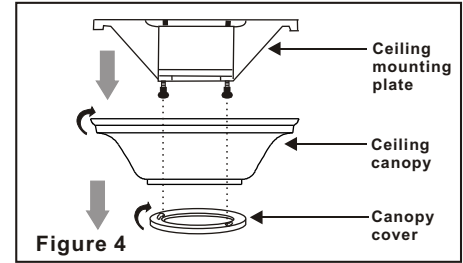

Figure 4
**Step 1.** Remove the decorative canopy bottom cover from the canopy by turning the cover counter clockwise. (Fig.4)
**Step 2.** Remove the hanger bracket from the canopy by loosening the two screws on the bottom of the hanging bracket a half turn from the screw head and turning the canopy counter clockwise. (Figure 4)